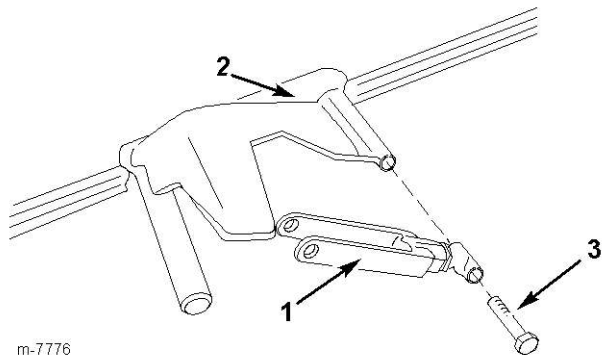

Figure 14
- Install the actuator link to the boom extension as shown in Figure 14 using the bolt (1/2 x 8-1/2 inch).